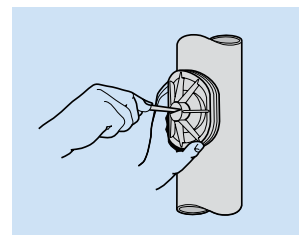

Fig. 54
- Ensure seal ring is lubricated prior to fitting. Tighten the screw whilst pulling the door outwards. Do not over tighten (Fig. 54)